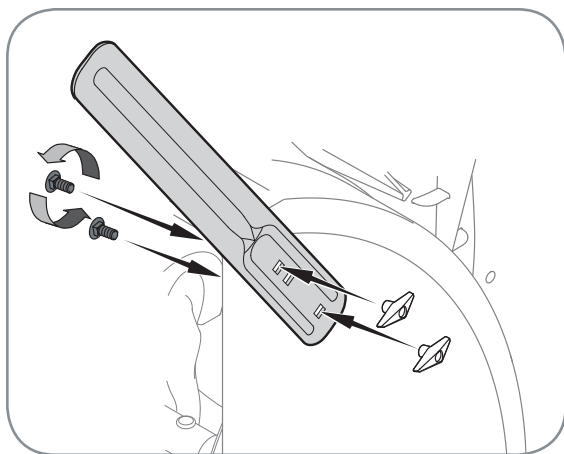

Figure 3-12
- Reposition drift cutters so they face forward as shown in Figure 3-12. Secure with hardware previously removed, wingnuts should be fastened on the **outside** of the housing as shown.